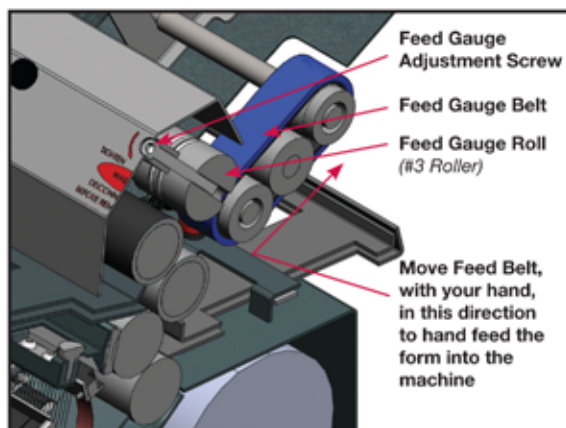

Figure 8: Feed Gauge Cross Section
To properly set the Feed Gauge System, refer to Figure 8.
5. Insert the 7/16" socket at the end of the breaker bar (*inside the tool box*) over the hex shaped end on the #3 roller (*Figure 8, page 12*). This bar can now be used manually to rotate the rollers to clean them.
5. Place the *Breaker Bar* socket (*inside the tool box*) over the hex end of the #3 roller (*Figure 8, page 10*). This bar can now be used to manually rotate the rollers to clear the jam.